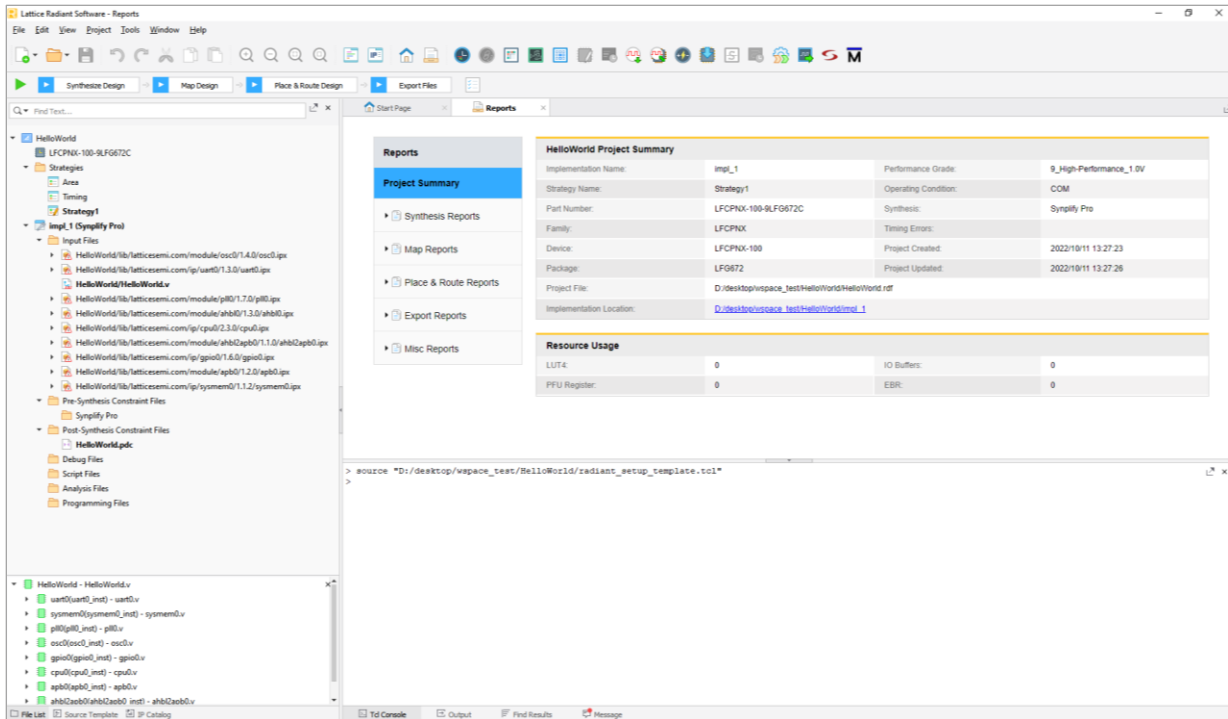

Figure 2.133. Radiant Project
2. Lattice Radiant is launched with a Radiant project generated for SoC at the background (Figure 2.133).